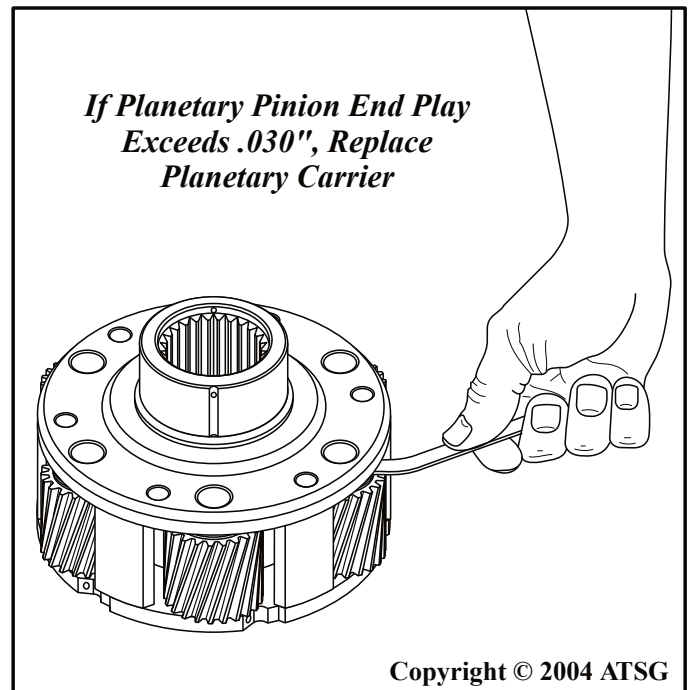

Figure 139
5. Check forward planetary carrier pinion end play, as shown in Figure 139, and replace the planetary carrier as necessary.